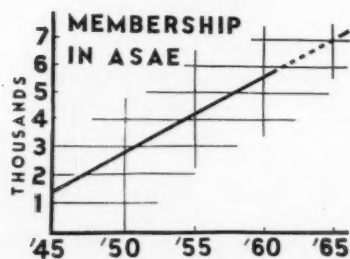

Fig. 1
- 1 Membership increased from about 1400 in 1945 to over 6000 in 1961 (Fig. 1).